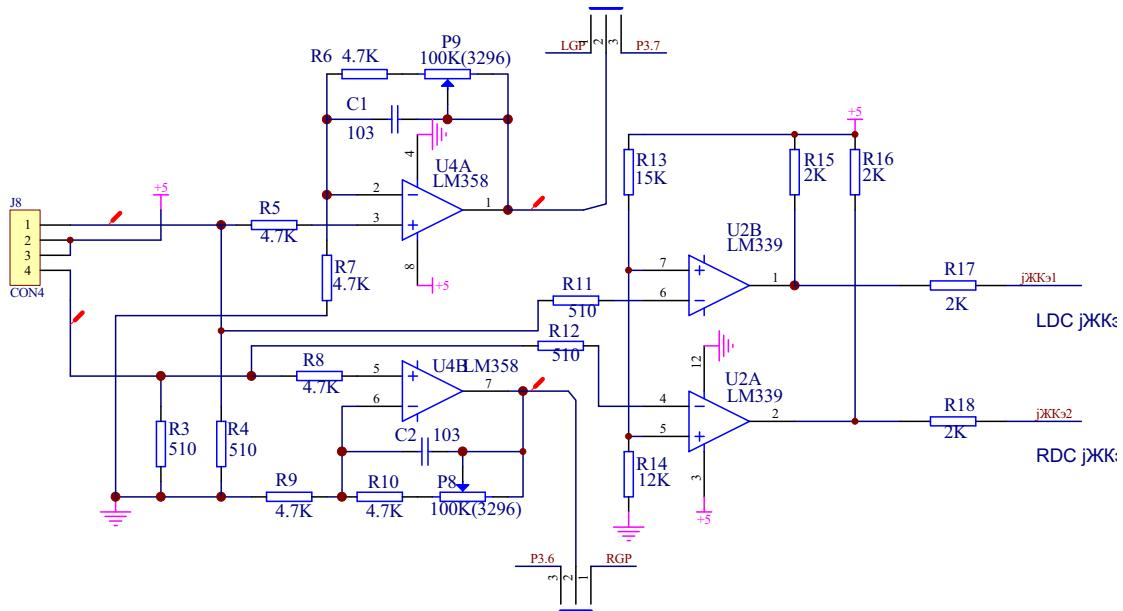

Fig.13A Left and Right Counting Sensor Circuit Diagram
### (1) OLD PRO85, PRO85U (Refer to Fig.13A)